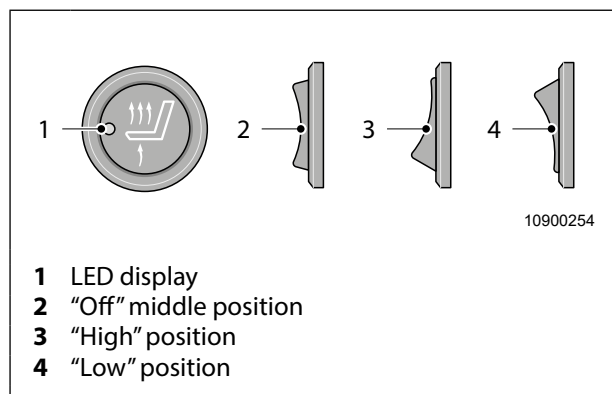

Fig. 2 Seat heating switch
1. Press the seat heating switch up to "High" (Fig. 2, item 3).
The LED (Fig. 2, item 1) is red. The heating up time is about 2 minutes.
1. Press the seat heating switch down to "Low" (Fig. 2, item 4).
The LED (Fig. 2, item 1) is green. The heating up time is about 6 minutes.
1. Press the seat heating switch to the middle position (Fig. 2, item 2).